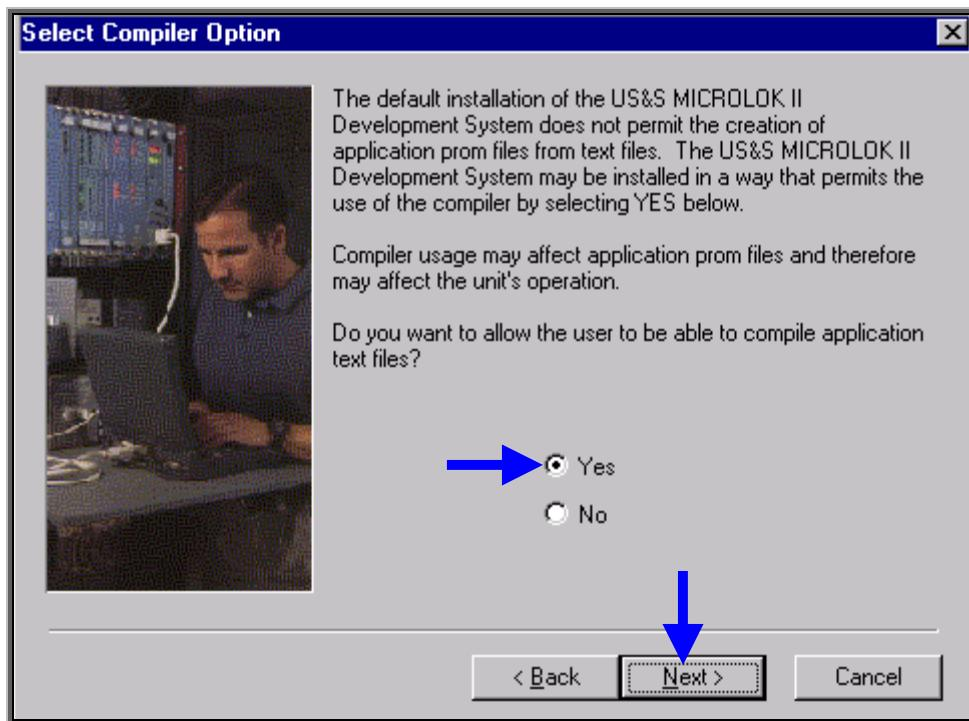

Figure-4.5
- ❖ This will present another dialog box as shown in Figure-4.5.